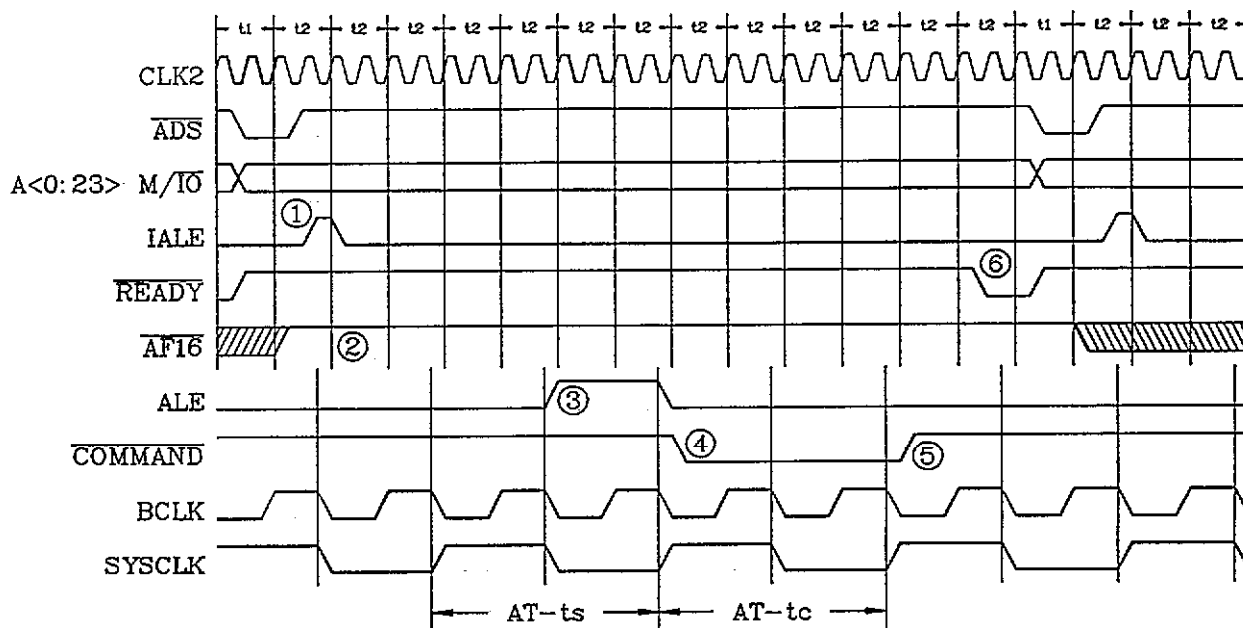

Figure 1.3 External Mode AT Bus Cycle
Figure 1.3 shows an external mode cycle. At the start of the cycle, IALE is generated (1) and AF16* is sampled in the inactive (high) state (2). ALE is generated on the first falling edge of SYSCLK (3). After a programmed number of command delays occur, in this